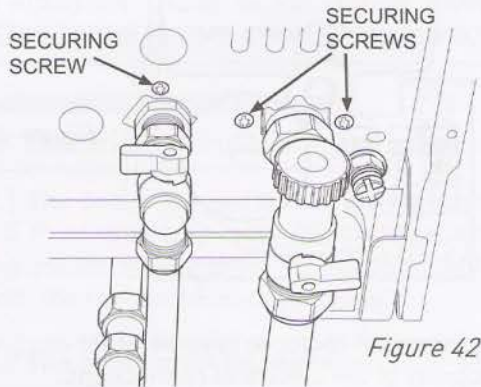

Figure 42
- Remove the fixing screws from the pump and hydraulic block at the bottom of the boiler (Figure 42).